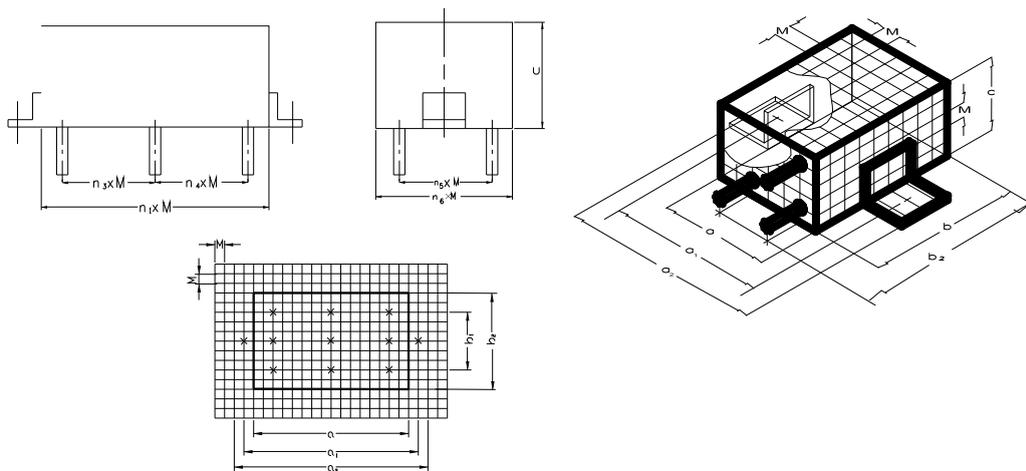

Fig.4 Basic module
Basic module(M) is a step in a grid system as shown Fig. 4.